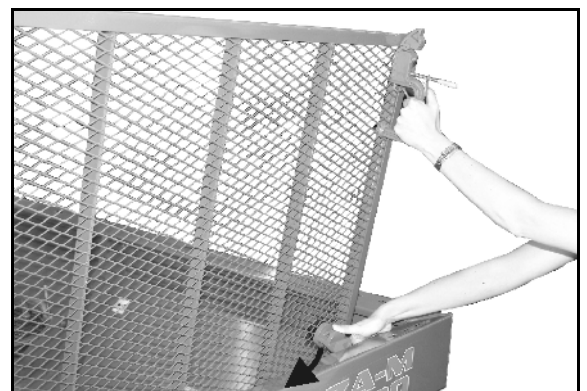

Fig. 18
- Before closing the guard screen, push down the lock (Fig. 18).